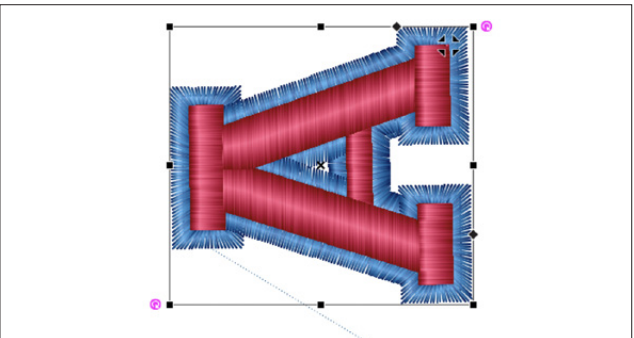

Figure 23
1. To rotate, select the object and click on either the rotate left or rotate right transform key on the top toolbar. You can rotate the object manually by clicking the pink rotate key when your object is selected. **See Figure 23.**